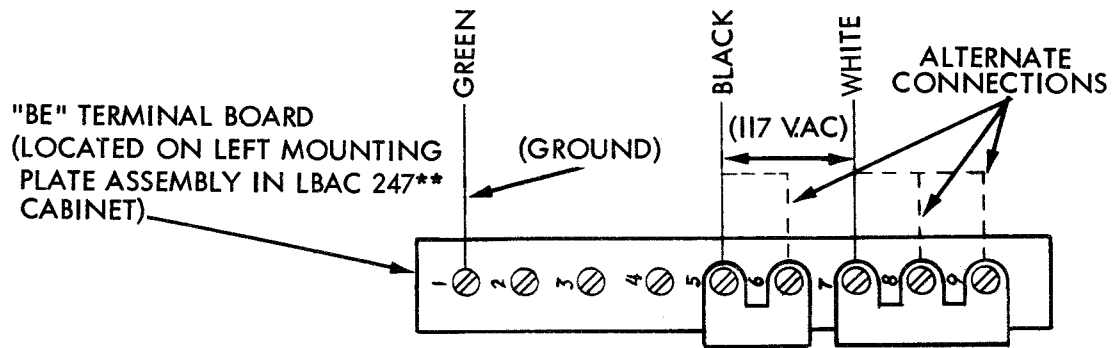

FIGURE 2. CONNECTIONS FOR AC POWER CABLE OF STATIC ELIMINATOR POWER UNIT
c. POWER CONNECTION (Figure 2) - Route the power unit AC input cable through the cable bracket on the cabinet, to the left mounting plate assembly. Connect the cable to the "BE" terminal board as shown in Figure 2.